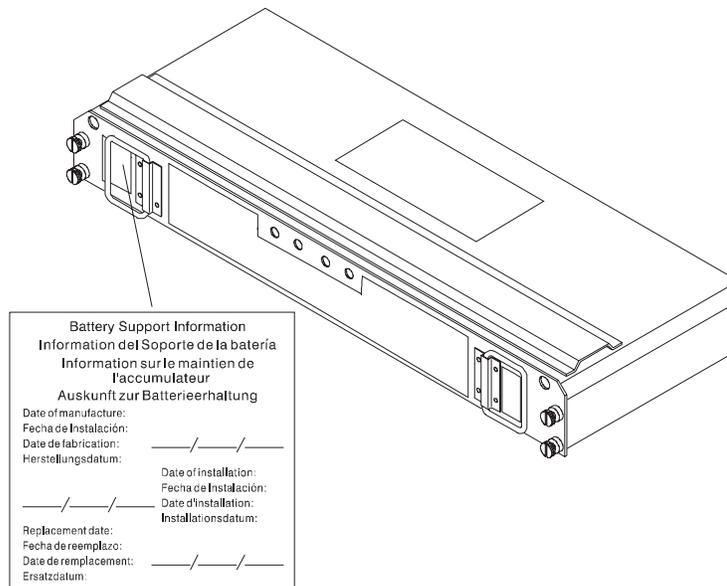

Figure 32. Checking the battery service date
2. Check the Battery Support Information label, as shown in Figure 32 on page 38.